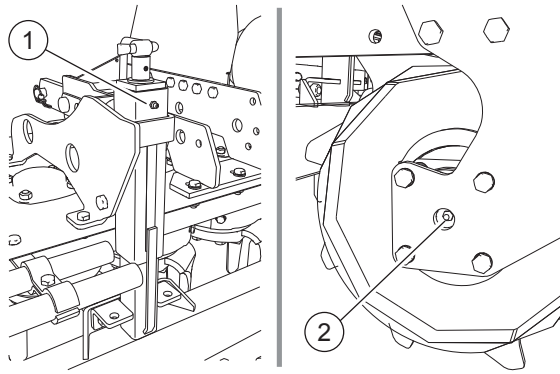

FIG. 40
- Grease gun on screw jack (1, “Fig. 40”).
- Roller support grease gun (2).